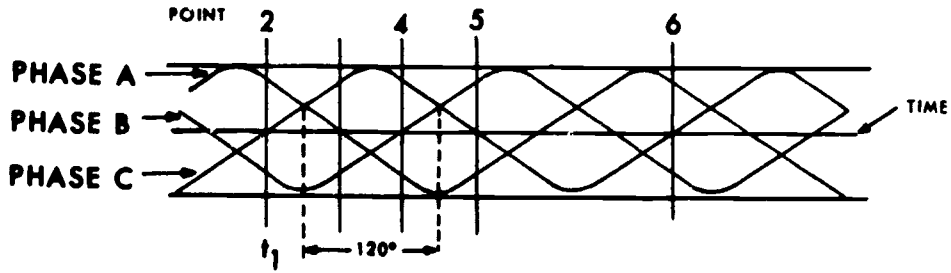
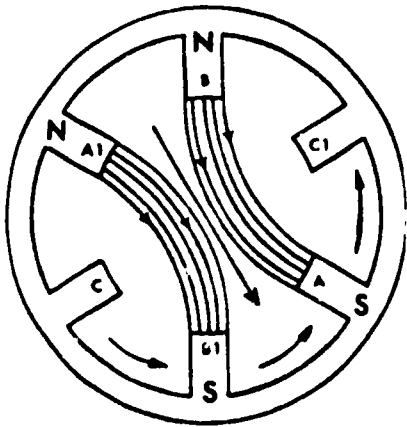
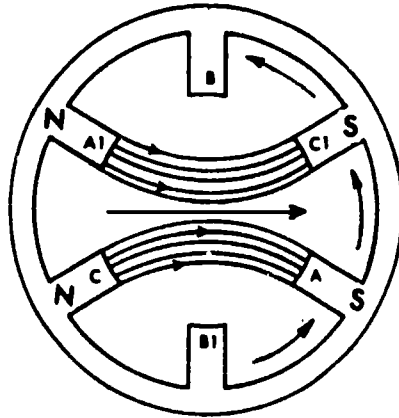
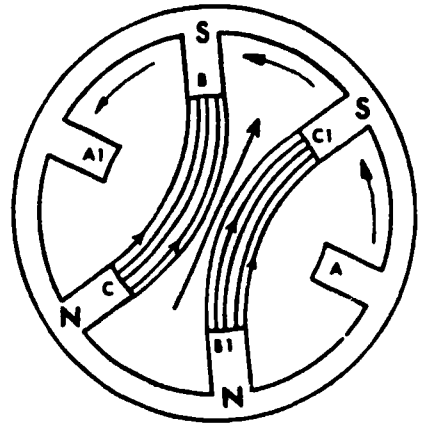

Figure 1.
Figure 2.
Figure 3.
Figure 4.
The illustration shows the rotating magnetic field of a three-phase AC motor. Figure 6 of the illustration shows phase A connected to poles A and A1, phase B to poles B and B1, and phase C to poles C and C1. Using figure 1 as a guide and comparing it to figures 2 through 5 the figures will show how a rotating magnetic field is achieved. Point 2 of figure 1 shows phases A and B at near maximum value while phase C is at zero. The magnetic lines of force are as shown in figure 2. The rotating magnetic field will be moving counterclockwise. Now move down the time line (figure 1) to point 3. At point 3, phase A is at zero and phases B and C are near maximum. This will cause the magnetic field to rotate counterclockwise to the position shown in figure 3. Compare points 4 and 5 (figure 1) and figures 4 and 5 and notice how the field continues to rotate counterclockwise. A check of points 2 and 5 (figure 1) and figures 2 and 5 will show that both current and the magnetic poles of the motor have changed polarity. Point 6 is the place where the motor will complete 360 degrees rotation. The current values of point 6 are the same as they were at point 2.
1. The current values at points two and six of figure 1 are the same.
In this section you will become familiar with an AC circuit as shown in figure 1, page 24 in Part 3 of this workbook. It is designed to operate and reverse the operati of single phase and three phase motors. You will learn this by tracing the individual circuits which make up the entire circuit. Let us begin by discussing the system's switches.
In this exercise, we will trace power to the manifold valve switch. You will use a red pencil and figure 1 in Part 3 of this workbook.
In this exercise, we will trace the manifold valve switch in the open position. You will use a dark green pencil and figure 1 in Part 3 of this workbook.
Now we will look at the manifold valve switch in the closed position. You will use a dark blue pencil and figure 2 in Part 3 of this workbook.